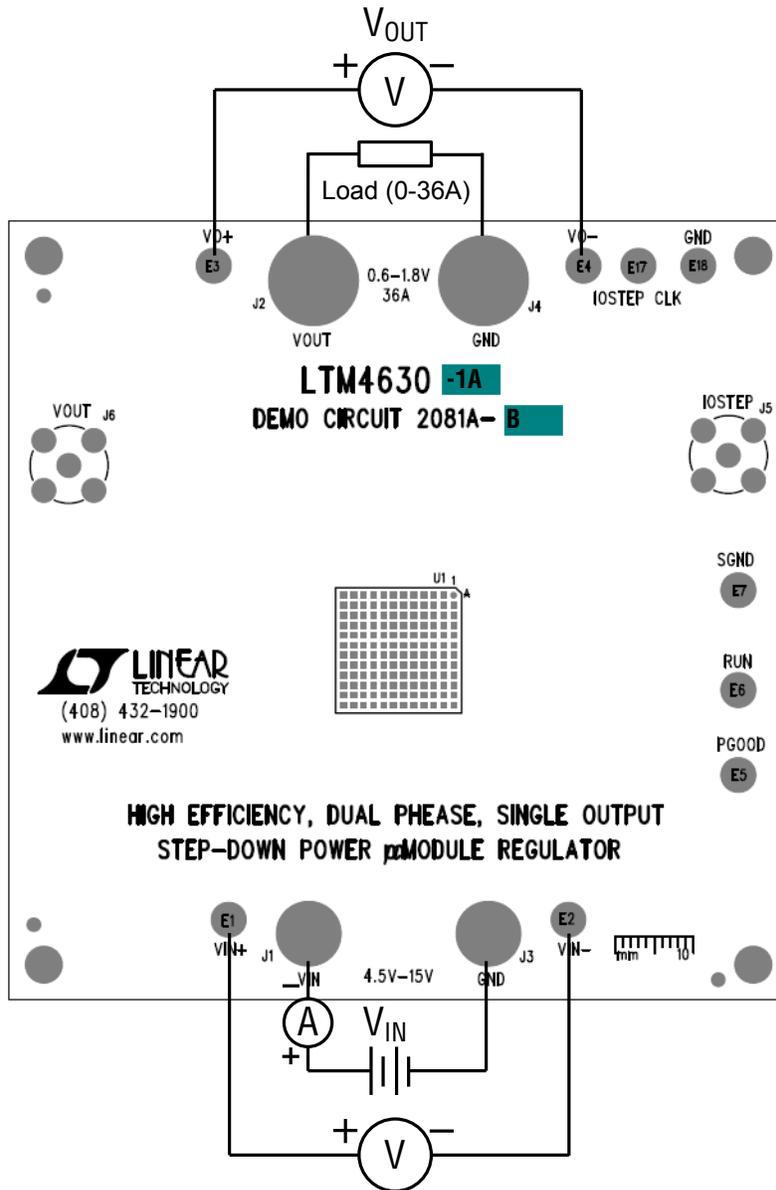

Figure 1. Test Setup of DC2081A-B
Demonstration circuit DC2081A-B is easy to set up to evaluate the performance of the LTM4630-1. Please refer to Figure 1 for proper measurement setup and follow the procedure below:
1. With power off, connect the input power supply, load and meters as shown in Figure 1. Preset the load to 0A and V_{IN} supply to 12V.